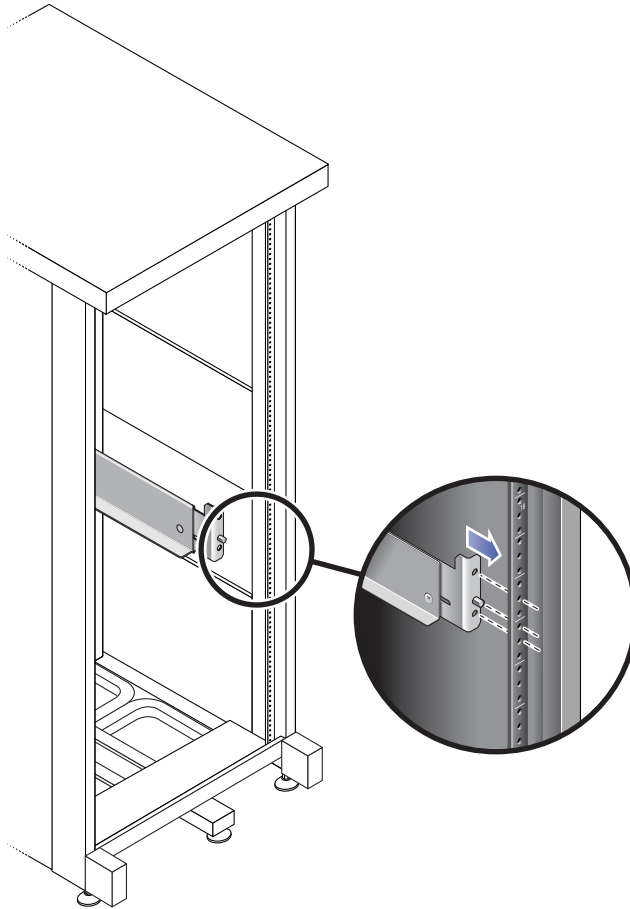

FIGURE 2-8 Adjusting the Length of the Left Rail at the Back of the Cabinet
- c. **At the back of the cabinet, adjust the length of the rail to position it directly inside the cabinet rail (FIGURE 2-8).**